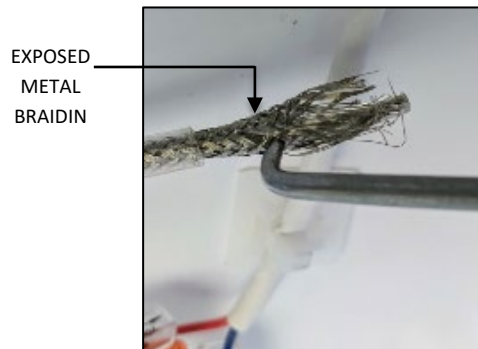
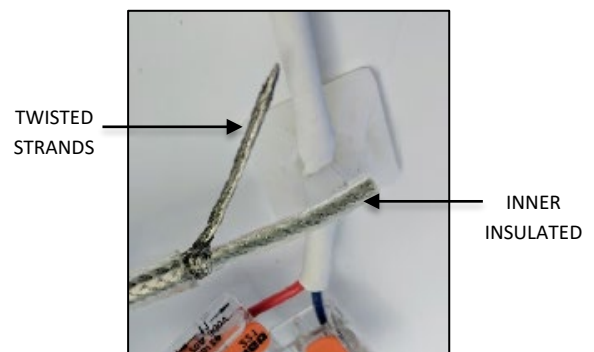

FIG. 40
FIG. 41
2. Using a small pointed object, begin unweaving the exposed metal braiding as shown in FIG. 40 below. Position the unwoven metal strands on one side of the inner insulated wire and twist the individual strands together as shown in FIG. 41 below.